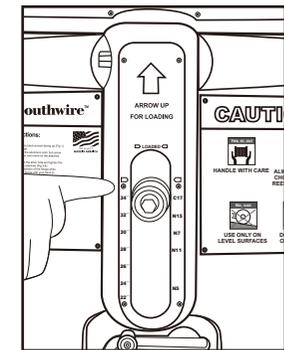

Fig. 8
- B. Continue lifting until the aluminum hub arrow aligns with loaded position on the scale (Fig 8).